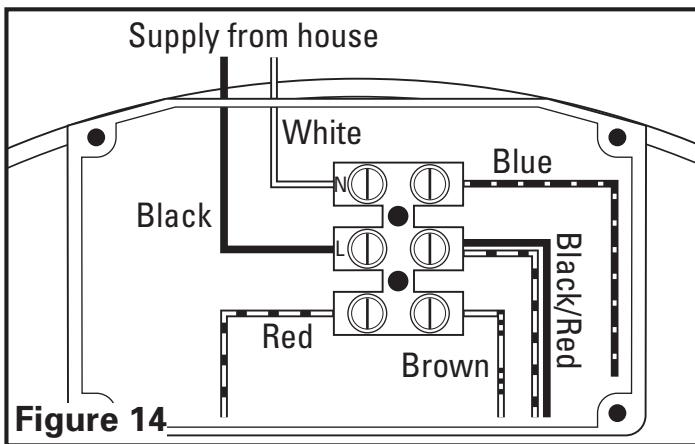

Figure 14
3. Insert the white wire from the house into the terminal strip port labeled "N" and tighten using a small regular screwdriver. Insert the black wire from the wall switch into the terminal strip port labeled "L" and tighten using a small regular screwdriver. Since the motor is isolated within a plastic housing, grounding is not necessary (**Figure 14**).